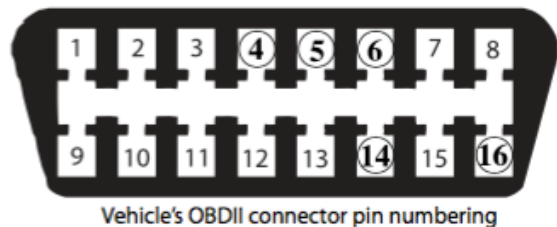

**Figure 2**
2. Cut off OBDII connector and strip back the insulation to expose the red wire, black wire, white wire, and unshielded wire (see **Figure 2**).